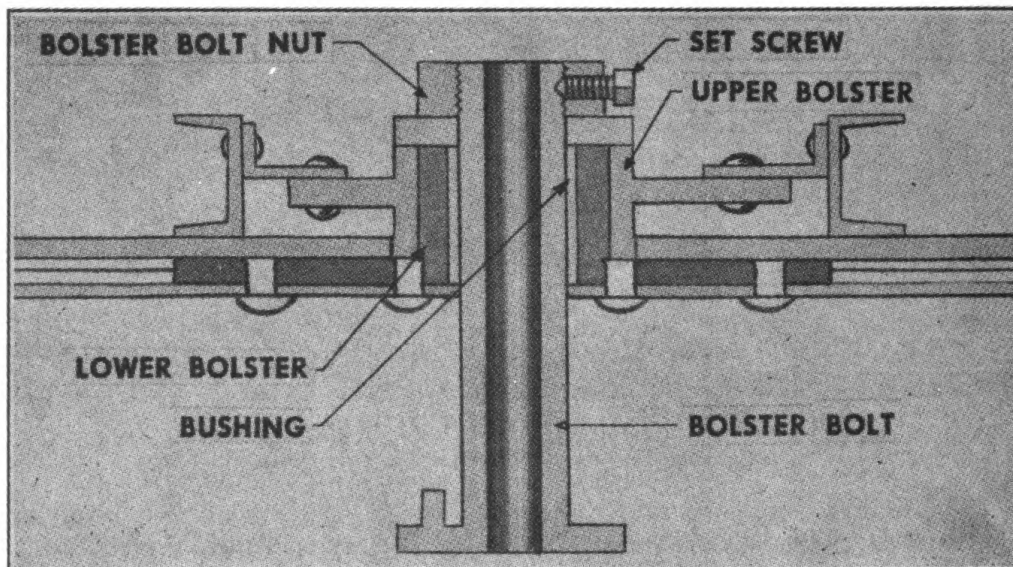

FIGURE 46A. CUTAWAY VIEW—BOLSTER
f. Bolt the new bolster plate in place, using four $\frac{5}{8}$ " bolts. Drive four rivets, then remove the four bolts and continue driving rivets. Grind top of rivets flush with the bolster plate. (Fig. 46a.)
7. **REBUSHING UPPER BOLSTER PLATE** (Fig. 46a).—a. Uncouple gear frame from main frame as instructed in paragraph 6.